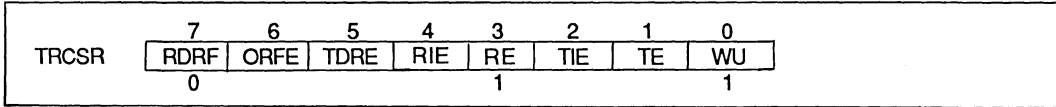

Figure III-2. Transmit/Receive Control Status Register in Wake-Up Mode
**Question:** When using the SCI in the asynchronous mode with the receive enable bit (RE) of the transmit/receive control status register (TRCSR) = 1 and wake-up bit (WU) = 1, what is the state of the receive data register full bit (RDRF)? See figure III-2.